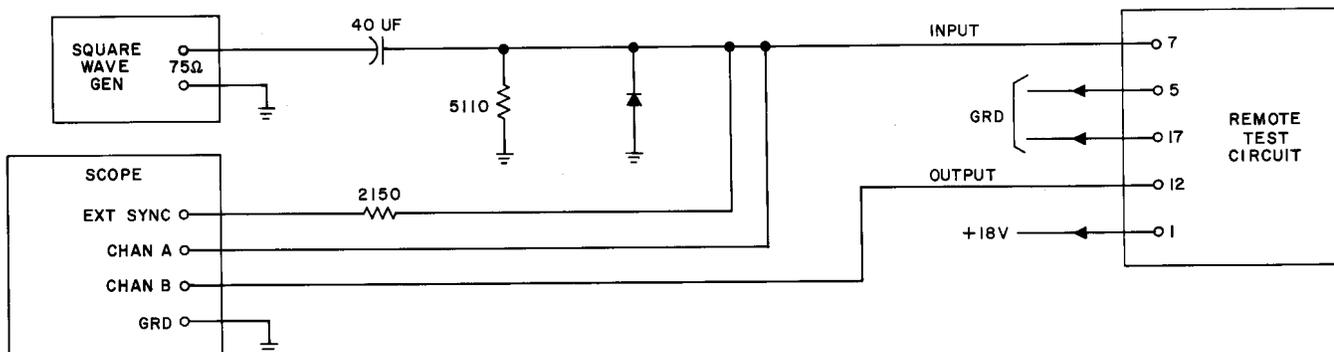
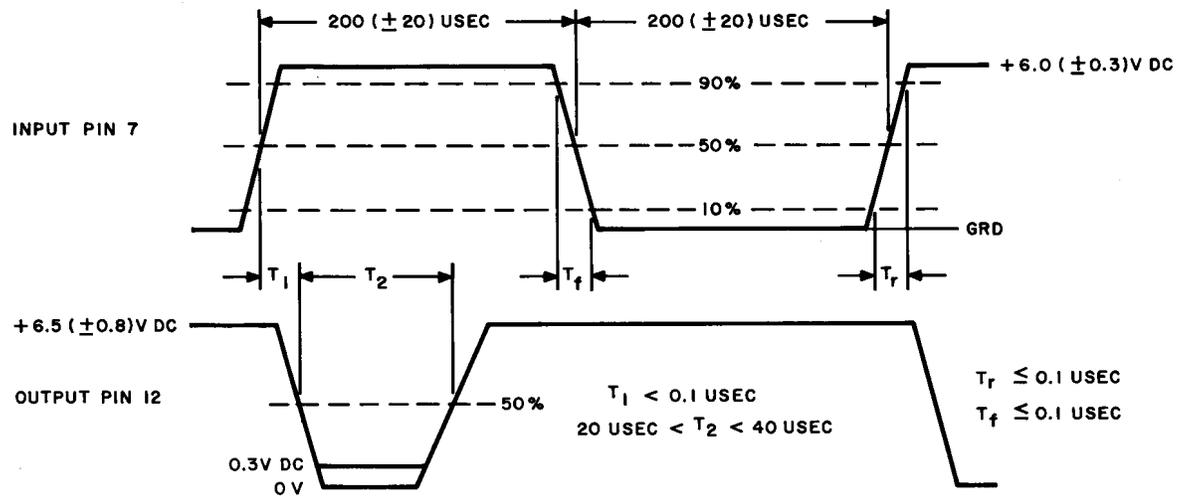

Fig. 50A — Remote Test Circuit Pack, Test Circuit
Fig. 51A — Remote Test Circuit Pack, Test
- (1) With ground connected to terminals 5 and 17 and +18.0 (± 0.5) Vdc connected to terminal 1, connect the circuit pack to the suggested test circuit shown in Fig. 50A. Set the frequency of the square-wave generator to 2.5 kHz (± 10 percent).
- (2) Set the scope EXT SYNC TRIGGER selector to the (+) positive position.
- (3) The input waveform at terminal 7 shall be as specified in Fig. 51A.
- (4) The output waveform at terminal 12 shall be as specified in Fig. 51A.